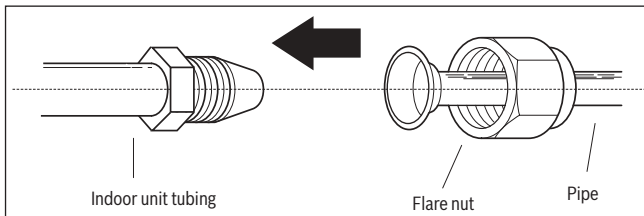

Fig. 42.
3. Place flare nuts on both ends of pipe. Ensure they are facing in the right direction, because you cannot put them on or change their direction after flaring. See Fig. 42.